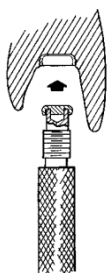
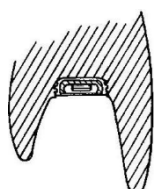

Fig. C4
Fig. C5
9. The LOCATOR® Male Seating Tool (attached to the LOCATOR® CoreTool) is used to firmly push a LOCATOR® Replacement Male into the metal denture cap. (Fig. C4) The Replacement Male must seat securely into place, level with the rim of the cap. (Fig. C5)